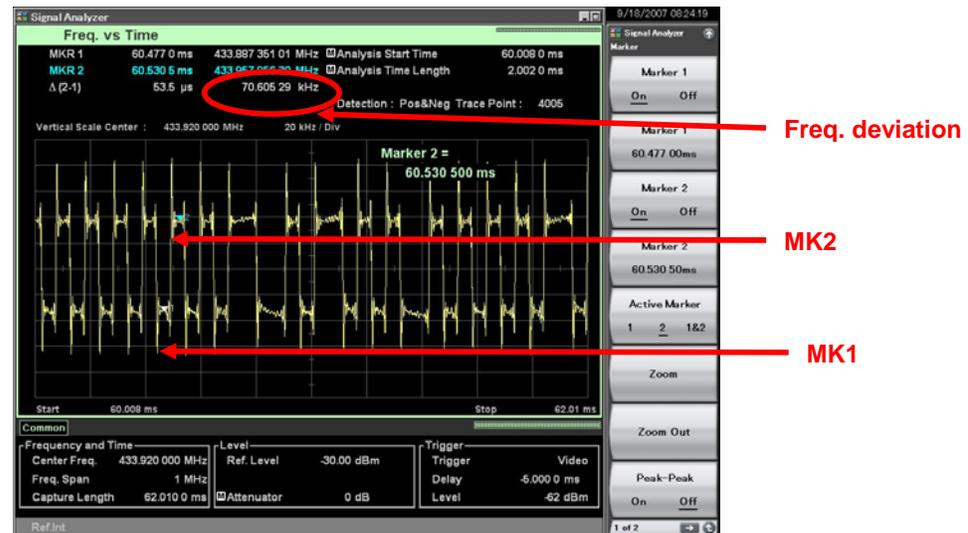

FIGURE 6.
- 11) When two markers are used, the frequency deviation between two points in the frame can be determined. This frequency deviation measurement using the marker is shown in Figure 6.